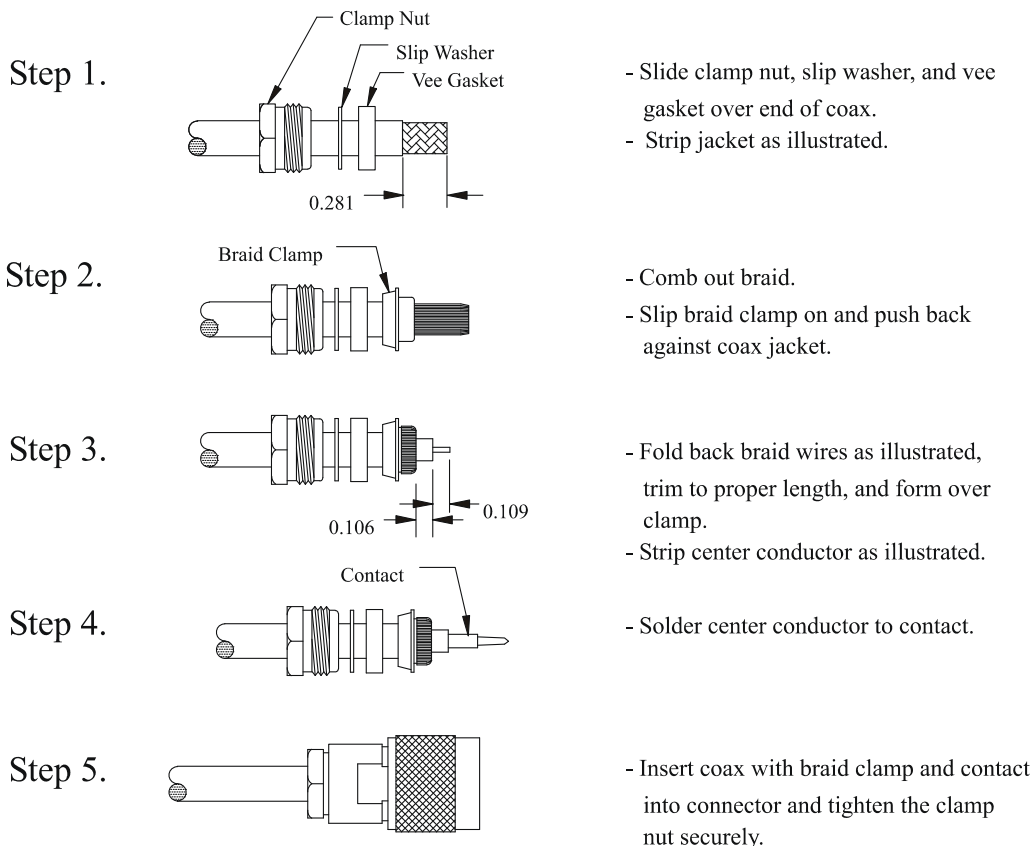

Figure 2-7. TNC Connector Installation
2. Trim the coaxial cable to the desired length and install the BNC or TNC (per Figure 2-7) connector. If provided, follow the connector manufacturer's instructions for cable preparation.